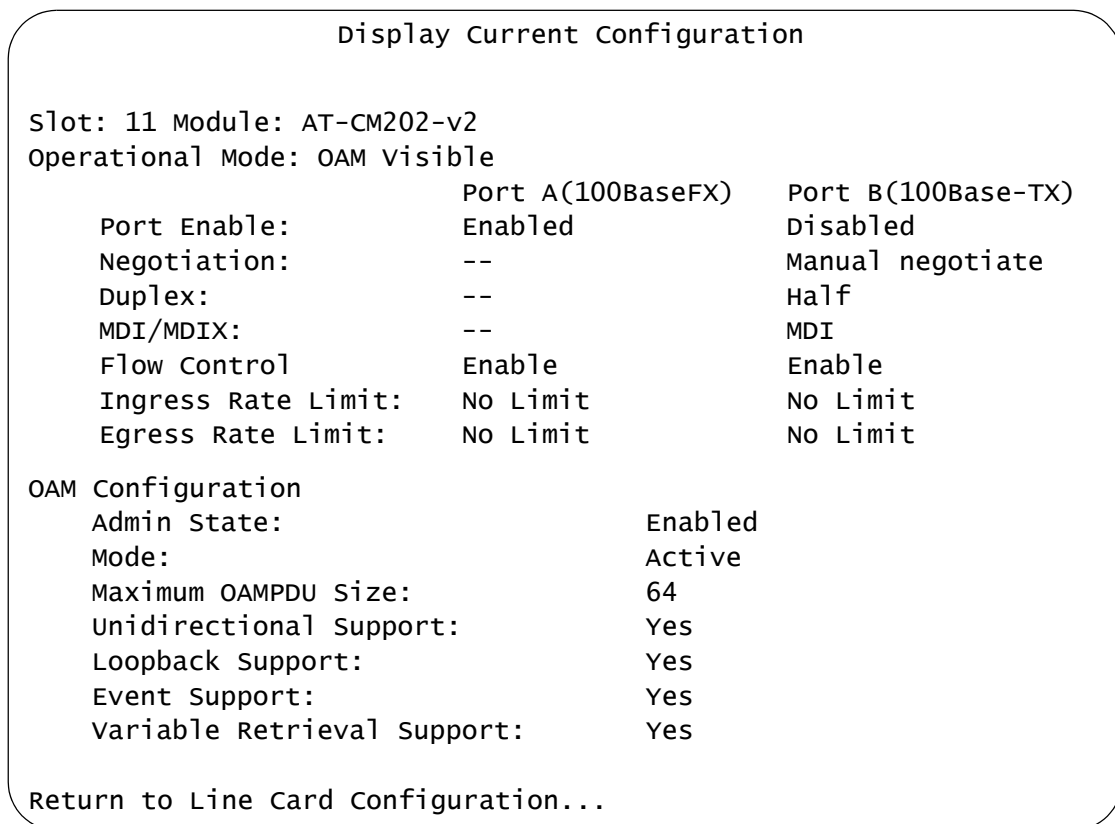

Figure 51. Display Current Configuration Window
4. Select **Display Current Configuration**. An example of the window is shown in Figure 51.